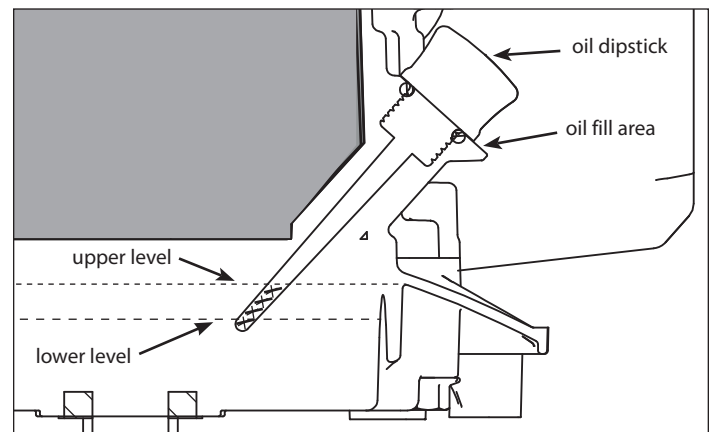

FIGURE 4: Filling the engine with fuel and oil.
1. Remove the oil dipstick. Fill the crankcase to the FULL line on dipstick. **DO NOT OVERFILL. SEE FIGURE 4**